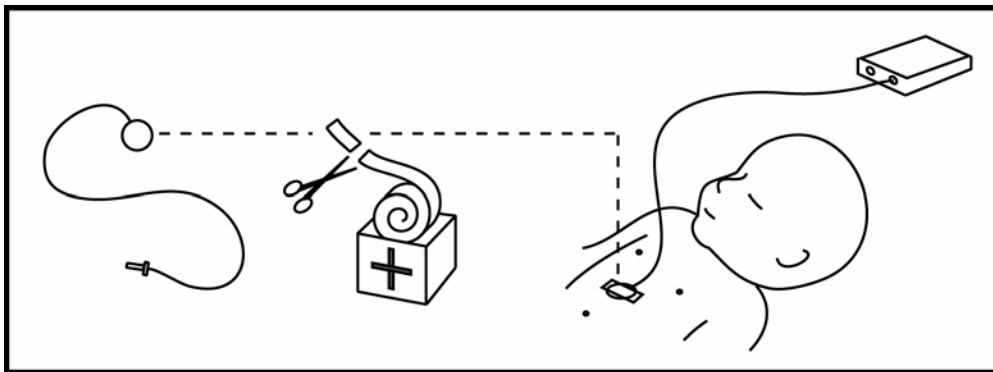

Figure 4 – Attaching the Abdominal Respiratory Sensor
4. Apply sensor with suitable tape (Fig 4).